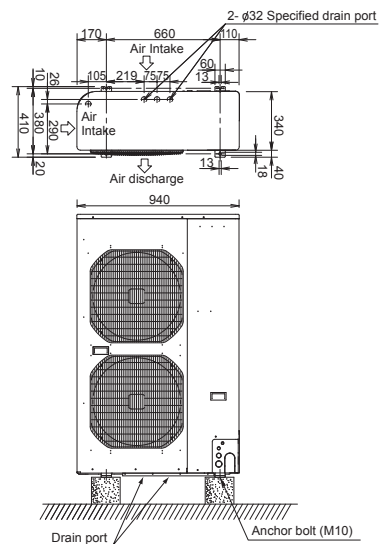

Fig. 4-1
- Refer to Fig. 4-1 for the anchor bolt dimensions.
- For the drain port dimensions, refer to Fig. 4-1.